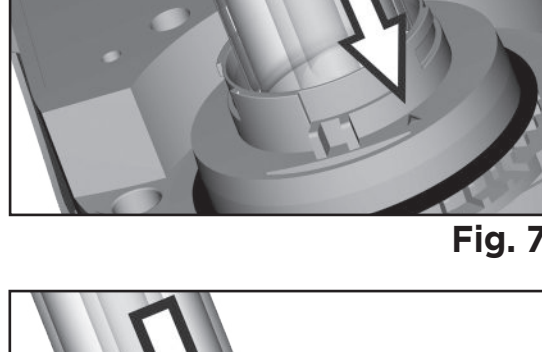
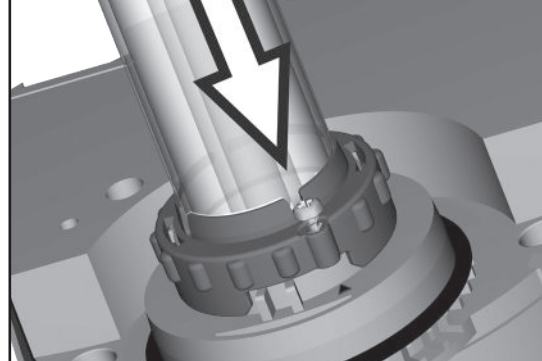
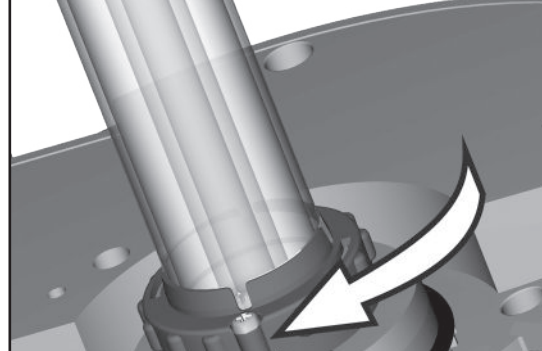

Fig. 7
Fig. 8
Fig. 9
10. Place the retaining flange (E) in its original position. Simply align the screw with the arrow and press the flange towards the UVC head, then turn the Retaining Flange approx 30 deg clockwise in the direction of the security screw (K). At this time fasten the Retaining Flange by screwing the security screw (K) (Fig. 7 - Fig. 8 - Fig. 9).